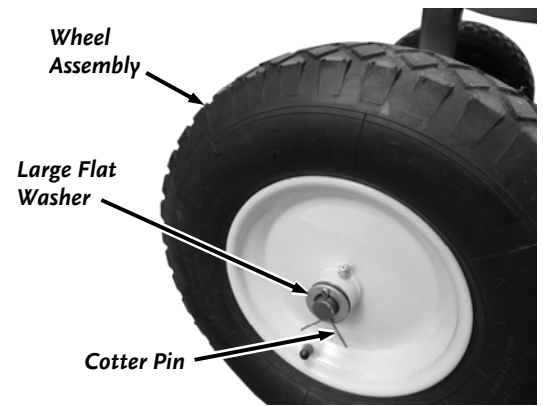

Figure 33
2. Remove the Cotter Pin by straightening the ends and pulling it from the hole in the Axle with Needle Nose Pliers (**Figure 33**).